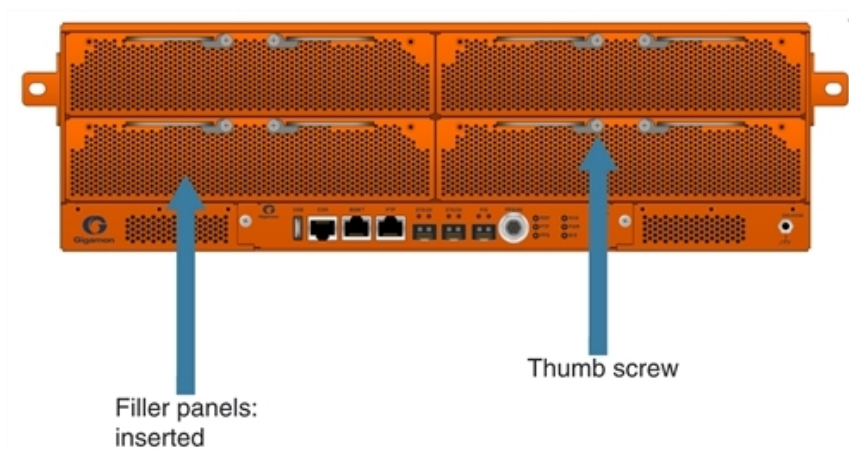

Figure 7 Filler Panels Inserted
3. Locate the protective filler panels in the bays. Refer to Figure 7 Filler Panels Inserted.